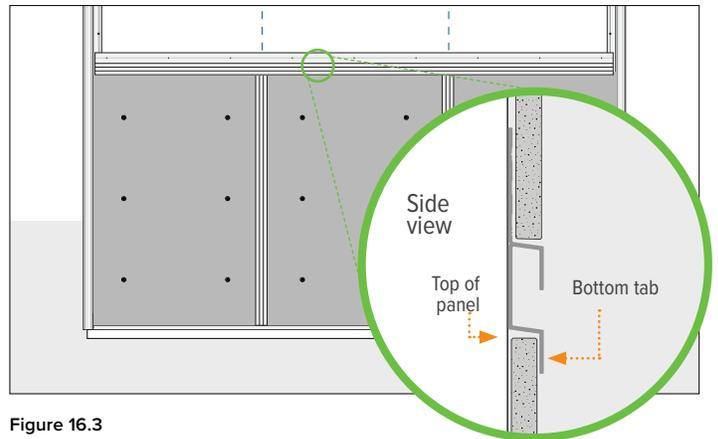

Figure 16.3
14. Install the EZ.5 midfield horizontal by overlapping the bottom tab over top of the top edge of the panel and the ends of the vertical trims. Make sure trim is level and fasten. (Figure 16.3) (See **Fastening Info**).